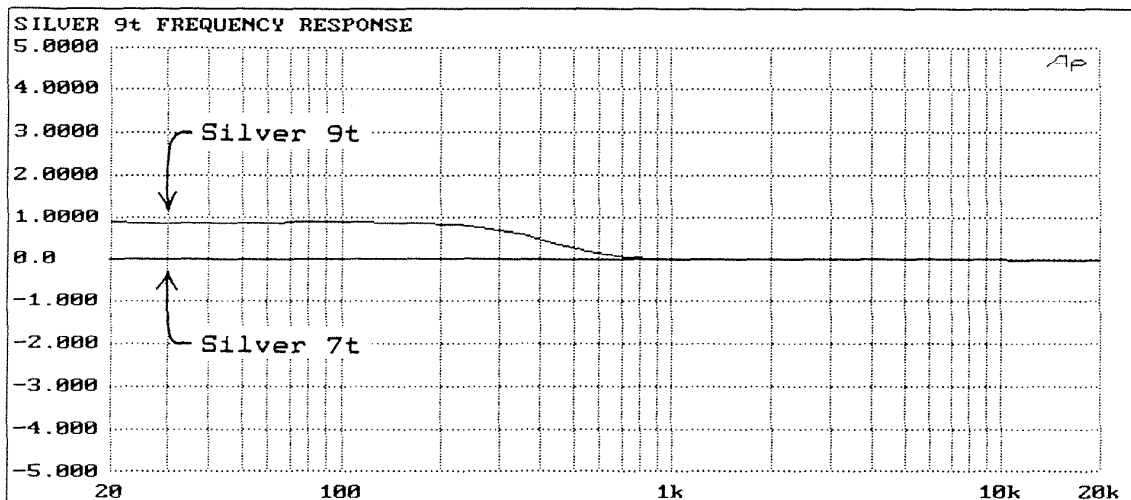

Figure 3: Frequency Response
- 2) Check response at 20Hz and 20kHz. See Figure 3.